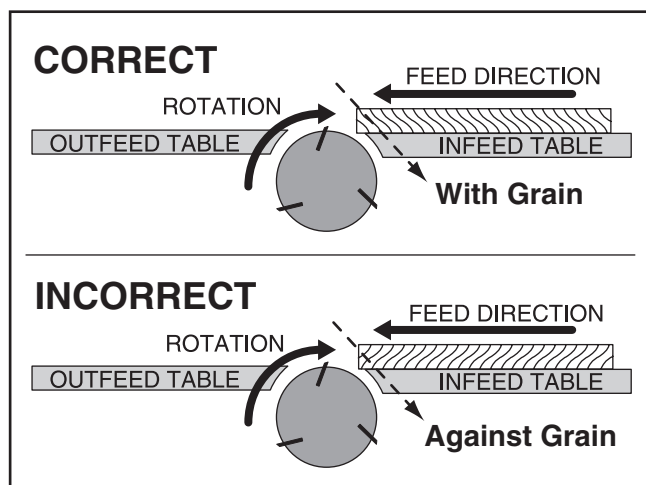

Figure 19. Proper grain alignment with the cutterhead.
- **Jointing and surface planing with the grain is safer for the operator and produces a better finish.** Cutting against the grain increases the likelihood of kickback and workpiece tear-out. DO NOT cut against the grain! Cutting with the grain is feeding the stock across the cutterhead so the grain points down and back, as viewed from the front edge of the stock (see **Figure 19**).